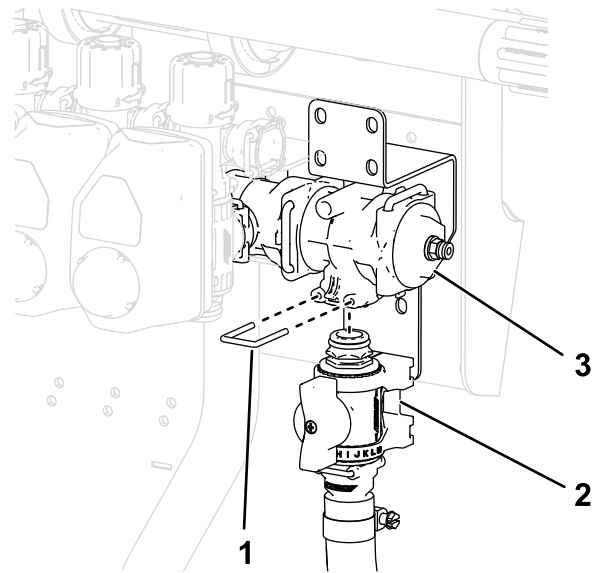

**Figure 37**
6. Assemble the valve mount onto a straight control valve as shown in A of Figure 37.
7. Secure the valve mount to the control valve with the flange-head screw (#6), and tighten the screw by hand (B of Figure 37).